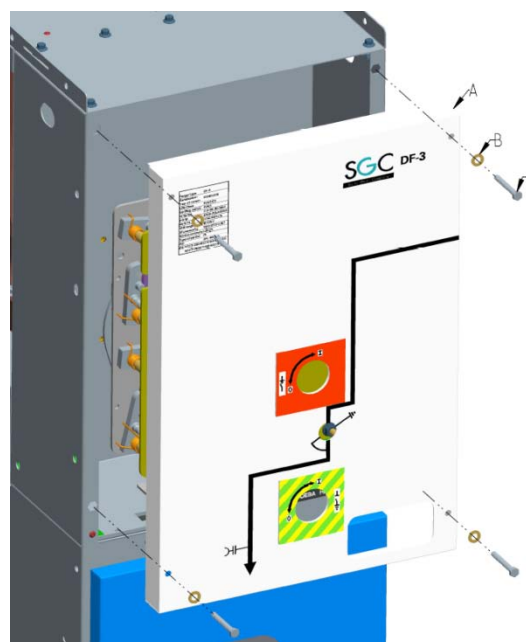

Figure 5: Disassembling front panel of DF-3
- Disassemble the front panel (Figure 5): Unscrew the 4 hexagonal tap bolts (C). Remove the 4 spring washers (B). Remove the front panel (A). The control and low-voltage compartment is now accessible.